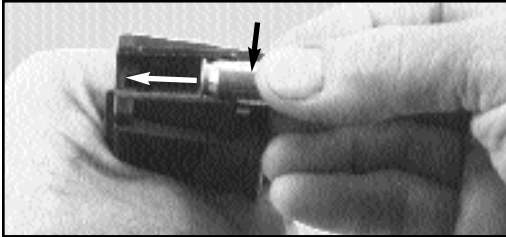

Fig. 20 Filling the magazine
- Slide individual cartridges under the magazine lips one by one (Fig. 20).